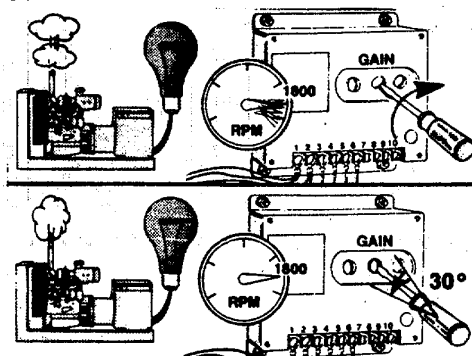

FIGURE 3-20. Gain Adjustment.
- (7) Performance adjustments.
- 1 At no load, slowly rotate the GAIN adjustment on the SPEED CONTROL unit slowly clockwise until the engine surges. IF SURGING DOES NOT OCCUR WITH THE GAIN ADJUSTMENT IN THE FULLY CLOCKWISE DIRECTION, MOVE THE FUEL LEVER TO INDUCE SURGING. Rotate the screw counterclockwise 30 degrees to retain stability. (FIGURE 3-20)